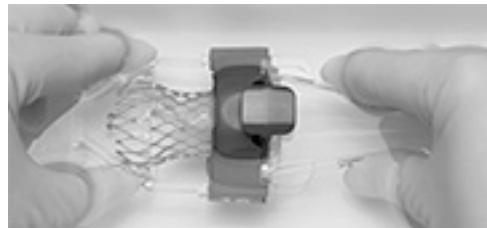

Figure 15
8. Secure the outflow cone onto the inflow cone (Figure 15) until it locks.